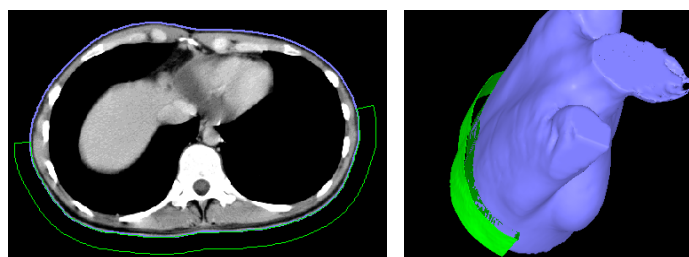

Figure 264 – Generated bolus ROI around the skin surface
- After the fourth point is defined in the current view, the bolus calculation process starts automatically. The bolus is generated and displayed as contours in the image series and as volume in the 3D view (see Figure 264).